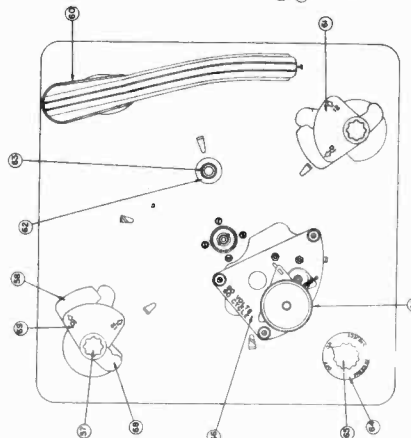
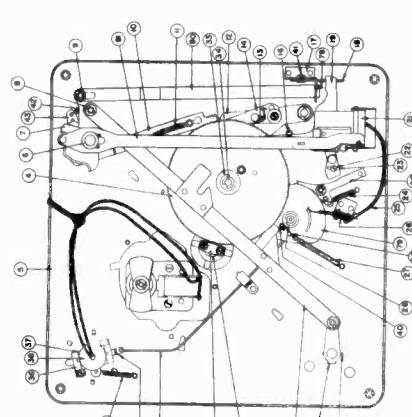
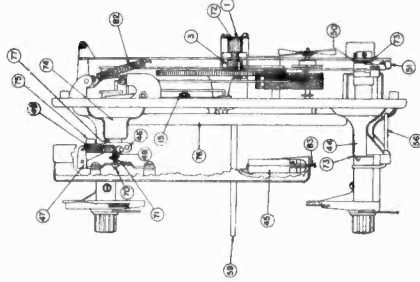

Figure 11
Figure 12
Figure 13
The Record Changer is started by turning the switch control knob, (Item 65, Fig. 11) to "ON"; this starts the motor and moves trip rod (Item 32, Fig. 12), which rotates trip lever assembly (Item 20, Fig. 12), causing it to disengage from Engagement Clutch Cam, (Item 79, Fig. 12). The Engagement Clutch Cam will then rotate due to tension from spring, (Item 27, Fig. 12). This causes it to contact the pin on the top side of Drive Gear Assembly, (Item 4, Fig. 12) as it starts to rotate. Item 29, moves the Drive Shaft Assembly, (Item 31, Fig. 12), to the position shown in Fig. 12. Also the tone arm reset link (Item 80, Fig. 12), has moved to where it has released the latch, (Item 18, Fig. 12), and carried the tone arm to its extreme outward position. The Tone Arm lifter link (Item 81, Fig. 12), has raised the tone arm to its extreme height, by means of the Lifter Plate Assembly, (Item 21, Fig. 12). The tone arm is kept from "floating" free by the friction of the Tone Arm Brake Spring which also compresses the tone arm booster spring, (Item 13, Fig. 12) due to its very light tension.
The Drive Gear Assembly (Item 4, Fig. 12) continues to rotate which causes the top pin to disengage from the Automatic Engagement Clutch Cam which is moved back to latch with the tone arm trip lever, and the lower pin to engage the drive link assembly, moving it back to its initial position. This swings in the tone arm to either the 10-inch or 12-inch record playing position and the top pin disengages from the Drive Gear Assembly. The Brake Spring allowing the Tone Arm Booster Spring to act.
point. If the clearance is greater, it would be due to the pressure on the Spring Washer (Item 50, Fig. 13) being too great. This will prevent the Tone Arm Litter Asses Spring (Item 52, Fig. 13) from returning the Tone Arm Litter Link Assembly (Item 81, Fig. 2) to its normal position. To relieve the pressure on the Spring Washer, loosen the Selector Shaft Collar (Item 6, Fig. 11) slightly.
1. Swing tone arm outward until tone arm lever assembly (Item 19, Fig. 12) latches with tone arm latch (Item 18, Fig. 12) which is held to the tone arm shaft (Item 7, Fig. 13) by two set screws.
2. Make sure these set screws are tight and that there is a slight play between the tone arm lever assembly and the panel (Item 5, Fig. 12). This will give proper clearance at ball race assembly (Item 74, Fig. 13).
3. The tone arm lever assembly (Item 19, Fig. 12) is held against tone arm latch lever (Item 18, Fig. 12) by the tension of tone arm locator lever spring (Item 16, Fig. 12).
4. Next loosen the clamping screw in the Stylus Bracket Assembly (Item 46, Fig. 13).
5. Now move tone arm (Item 60, Fig. 11) until its outside edge is $\frac{3}{16}$ " from the outside edge of the panel (Item 5, Fig. 12) and re-tighten screw securely.
If the Record Changer does not go into its changing cycle when the needle has reached the above-mentioned distance, the Tone Arm Trip Lever Shoe (Item 23, Fig. 12), should be moved toward the outside edge of the panel. To do this, it is necessary to loosen the thumb nut (Item 22, Fig. 12), and then retighten after adjustment has been made.
2. Check Trip Rod (Item 32, Fig. 12) to make sure it releases Trip Lever Assembly (Item 20, Fig. 12), from Engagement Clutch Cam Assembly (Item 79, Fig. 12), when Switch Knob is being turned on. If Trip Lever Assembly is not released, Trip rod should be shortened by bending until Trip Lever clears Engagement Clutch Cam Assembly, when Switch Knob is turned.
3. Make sure that Clutch Reset Pawl (Item 40, Fig. 12) clears Drive Link Assembly (Item 31, Fig. 12).
(A) Trip Lever Assembly (Item 20, Fig. 2) does not latch in Engagement Clutch Cam Assembly (Item 79, Fig. 12), which may be due to causes listed below:
1. Trip Rod (Item 32, Fig. 12), may be bent so that it is too short, holding Trip Lever Assembly from contacting Engagement Clutch Cam Assembly.
2. Springs (Item 24 or 35, Fig. 12) may be disconnected.
1. Mating switch (Item 26, Fig. 12), may be out of adjustment. The contacts of this switch should be open whenever its long blade is not resting on the shoe of the Engagement Clutch Cam Assembly (Item 79, Fig. 12). If the contacts remain closed after the long blade has left the shoe, they should be adjusted by bending until there is a separation of approximately $1/32$ ".
4. Set Rod (Item 56, Fig. 13), is operated by Selector Arm (Item 61, Fig. 11). The 12" Set Link (Item 10, Fig. 11), operates as a stop when Record Changer is set for 12" records. When Tone Arm Locator Assembly (Item 12, Fig. 11) contacts 12" Set Link the tone arm should be in the correct position to play a 12" record.
If at this point, the position of Tone Arm is incorrect, loosen the screw which holds the Tone Arm Locator Shoe 12" (Item 14, Fig. 11) and move in either direction as required and tighten screw.
3. Note where needle contacts record. Correct contacting is about $\frac{1}{8}$ " from the outside edge of record. If contacting of needle is not correct as mentioned, loosen the screw which holds Tone Arm Locator Shoe 10" (Item 15, Fig. 13) and slide shoe in or out as required, then tighten screw.
Set the Record Changer for ten-inch records, turn Switch to "ON" and allow Record Changer to play the changing cycle with no record on the turntable. The clearance between Turntable and the bottom surface of the Tone Arm should be approximately $\frac{1}{16}$ ". Usually this clearance can be obtained by adjusting the Tone Arm Adjustment Screw (Item 70, Fig. 13). It is well to check the following points before making any adjustment.
Check clearance between Roller (Item 51, Fig. 13), and Selector Crank Shaft Assembly (Item 7, Fig. 12). There should be approximately $1/32$ " clearance at this